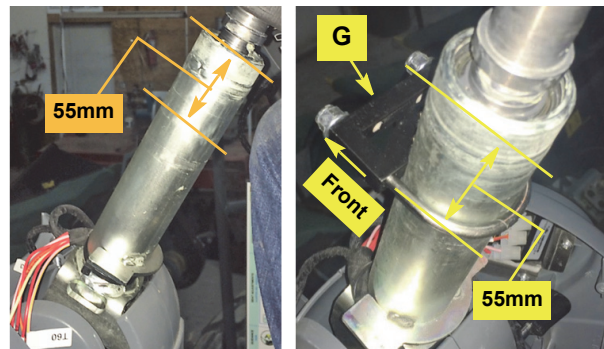
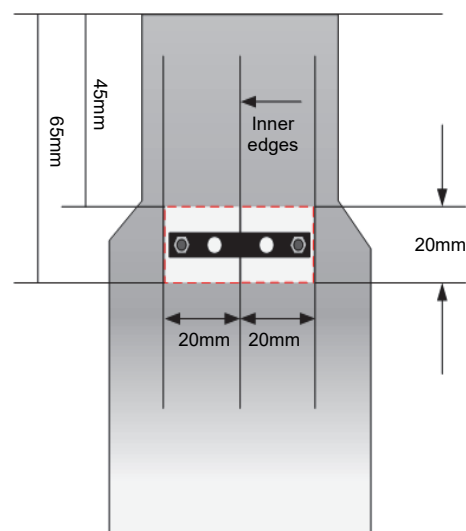

Figure 4a: Installing the saddle clamp
Figure 4b: Marking and cutting the steering column covers
**NOTE:** *Important: In the following steps you will install the saddle clamp on the steering column (Figure 4a) and cut an opening in the steering column covers (Figure 4b). You need to ensure that:*
- c. (Figure 4b). Mark and cut a rectangular opening in the front of the two covers. The opening needs to be 40mm wide (20mm from each cover, that is 20mm to each side of the covers' inner front edges) and 20mm deep. The top edge should be 45mm from the top of the covers and the bottom edge 65mm from the top of the covers.